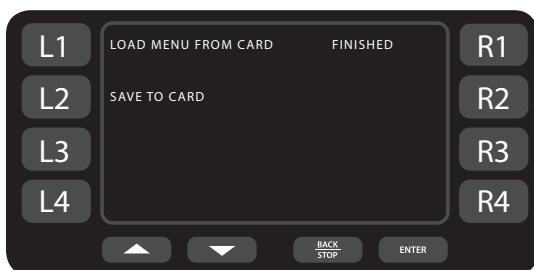

Figure 22: Loading...Finished
4. From the Load Menu screen, press the L1 soft key (Figure 22).
4. From the Load Menu screen, press the L2 soft key (Figure 22).